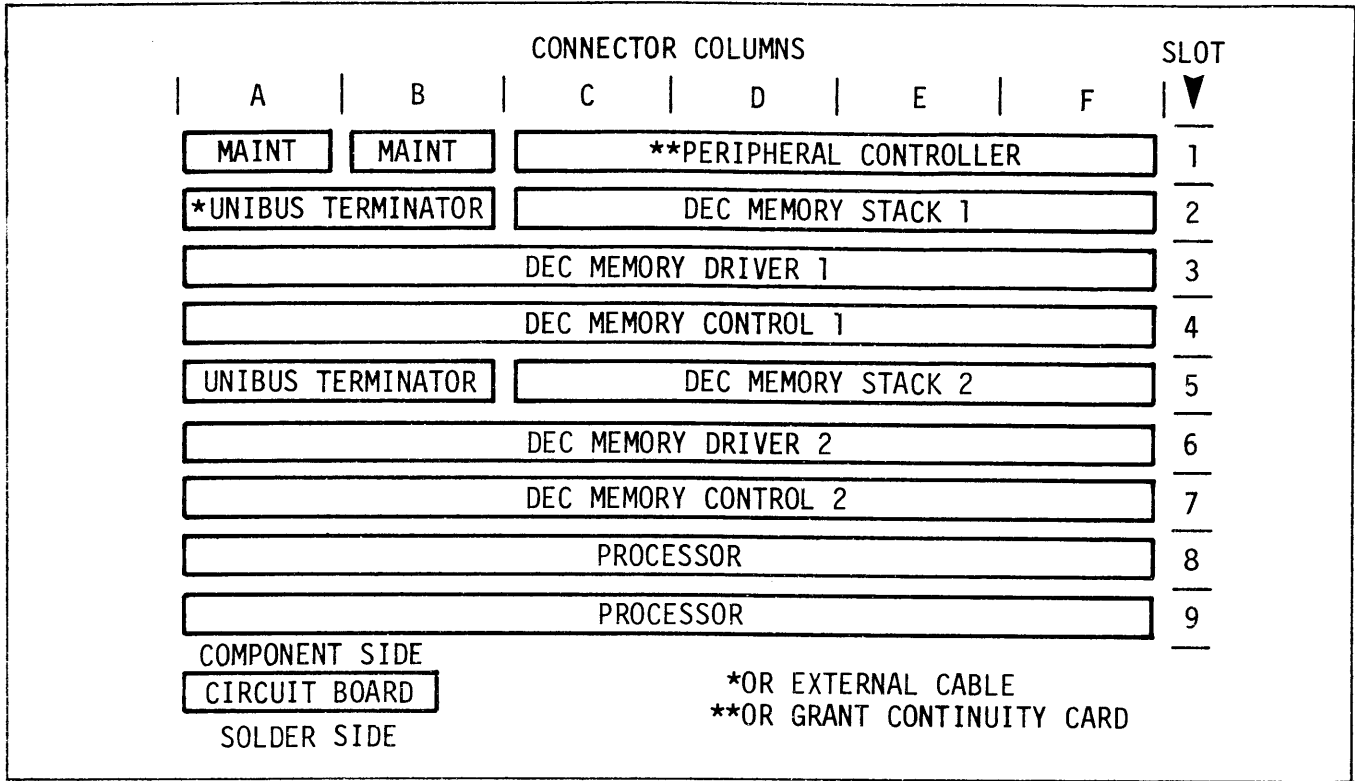

Figure 4-1. DEC PDP-11/05 and PDP-11/10 Standard Module Utilization - Configuration 1 (16K)
- a. Configuration 1 is wired for 16K of memory with one small-peripheral controller slot (Figure 4-1).